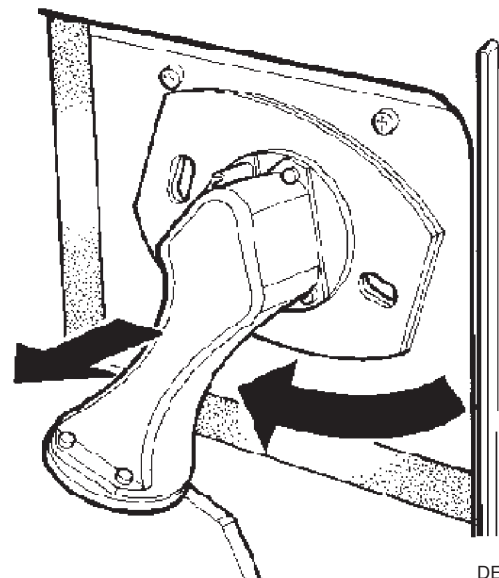

FIG. 17
6. Remove burner by twisting clockwise and then remove. (See Fig. 17).